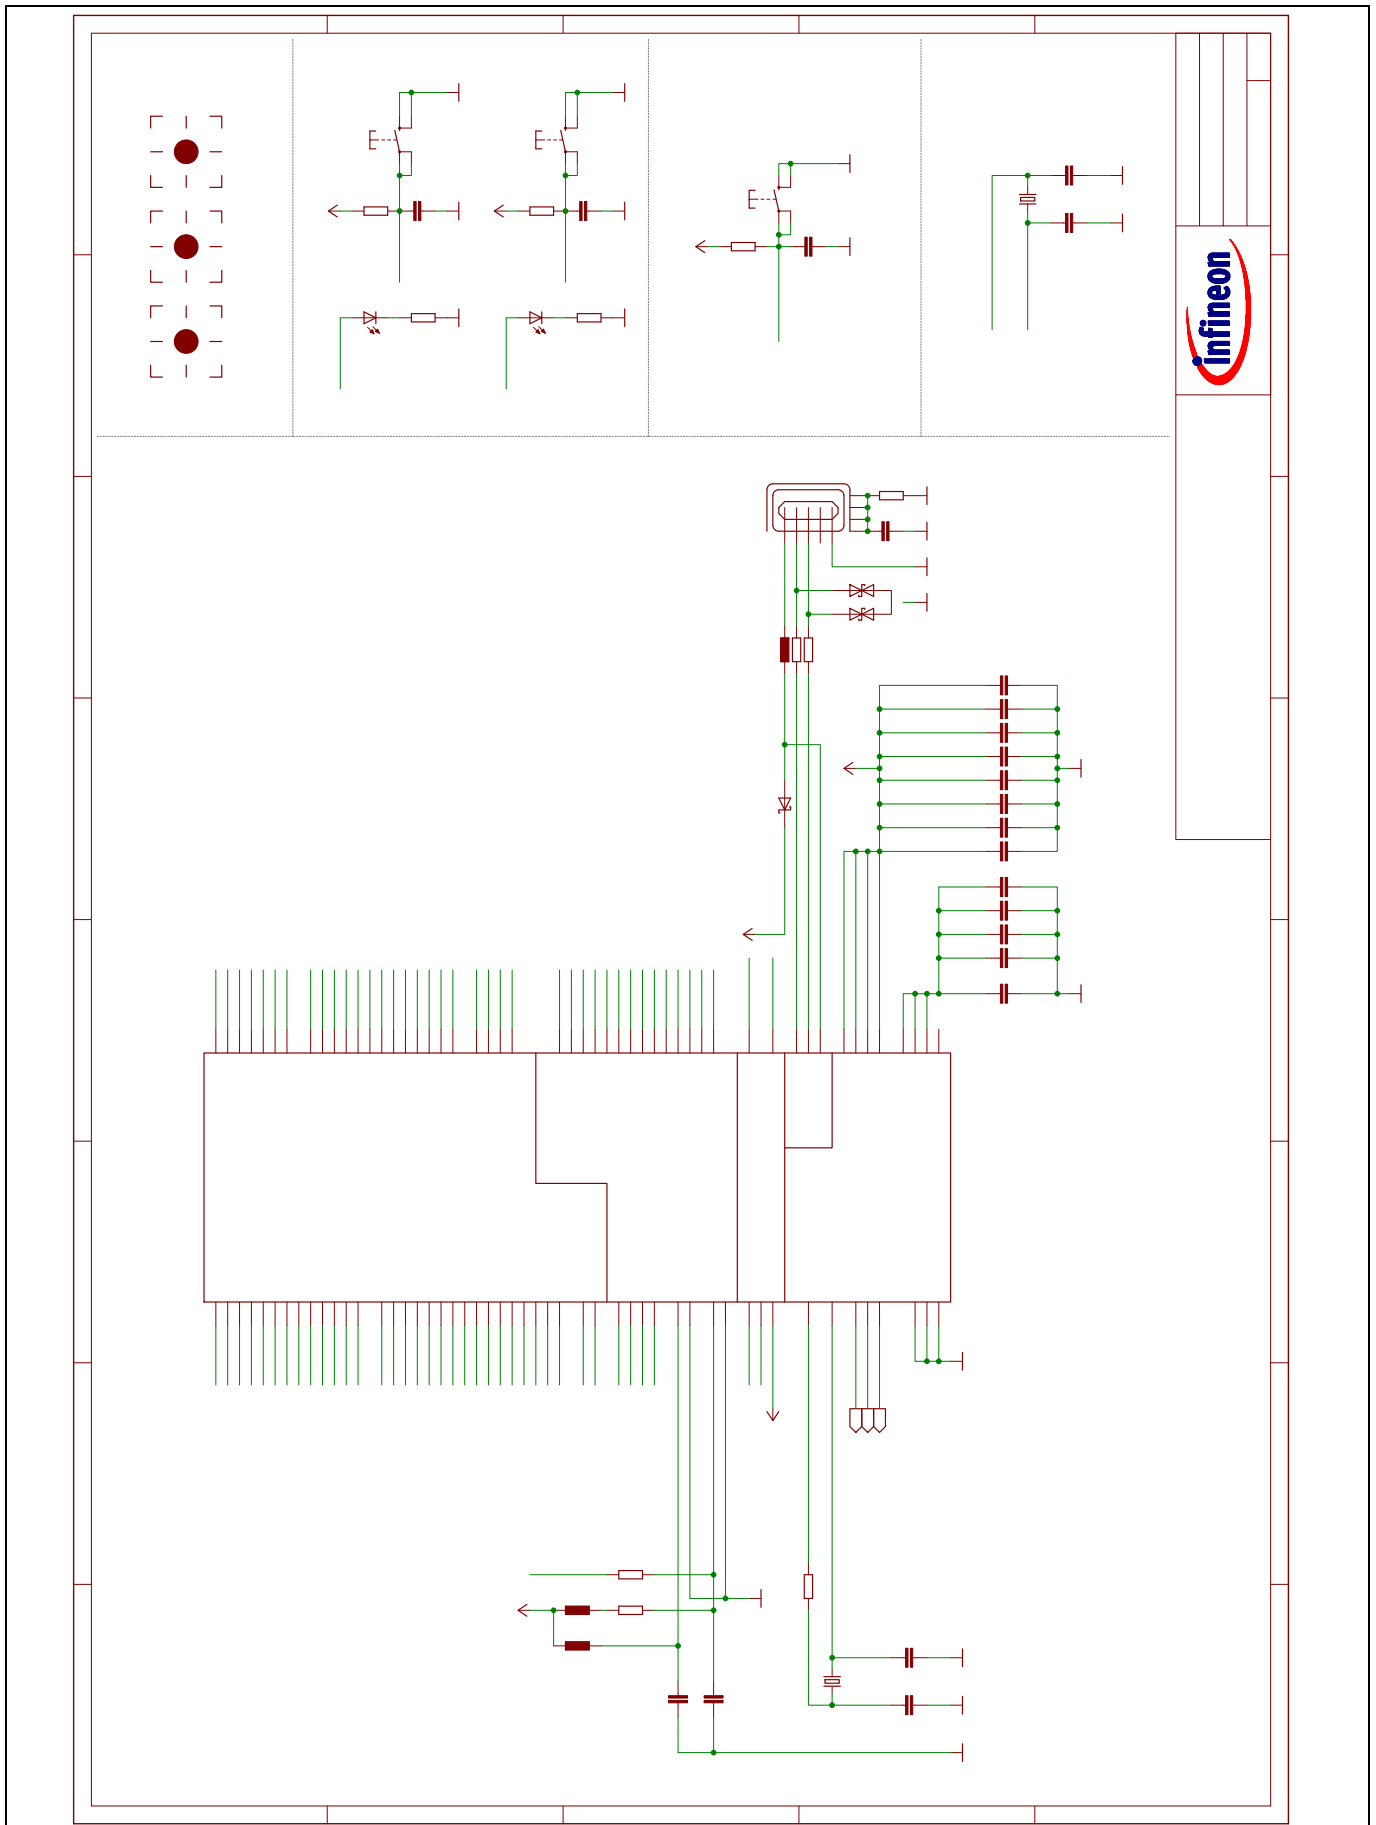

Figure 7 Schematic: MCU, Push Buttons, LEDs, Reset Button, Crystals, USB
- Figure 7: Schematic: MCU, Push Buttons, LEDs, Reset Button, Crystals, USB